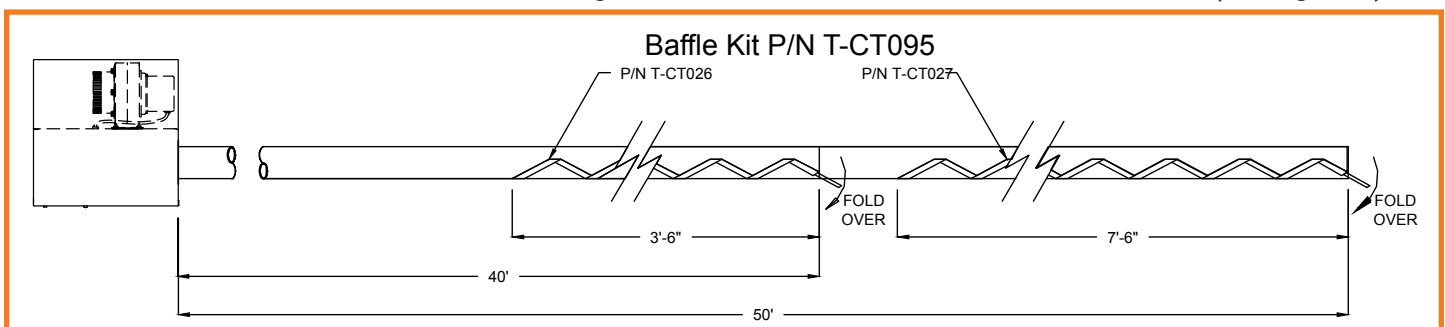

Figure 3: Baffle location for all DU/DUH-205, 250,000 btu/hr, 50ft models ONLY (P/N T-CT095 Baffle Kit)
- 205,000 BTU/Hr 50' heat exchanger with a 4' baffle at 40', and an 8' baffle at 50'. (See figure 3)